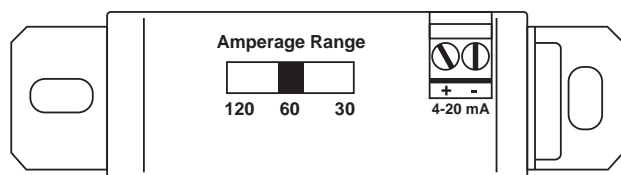

Figure 4: Current Setting Switch
4. Select the input current range at the front panel slide switch per Figure 4.